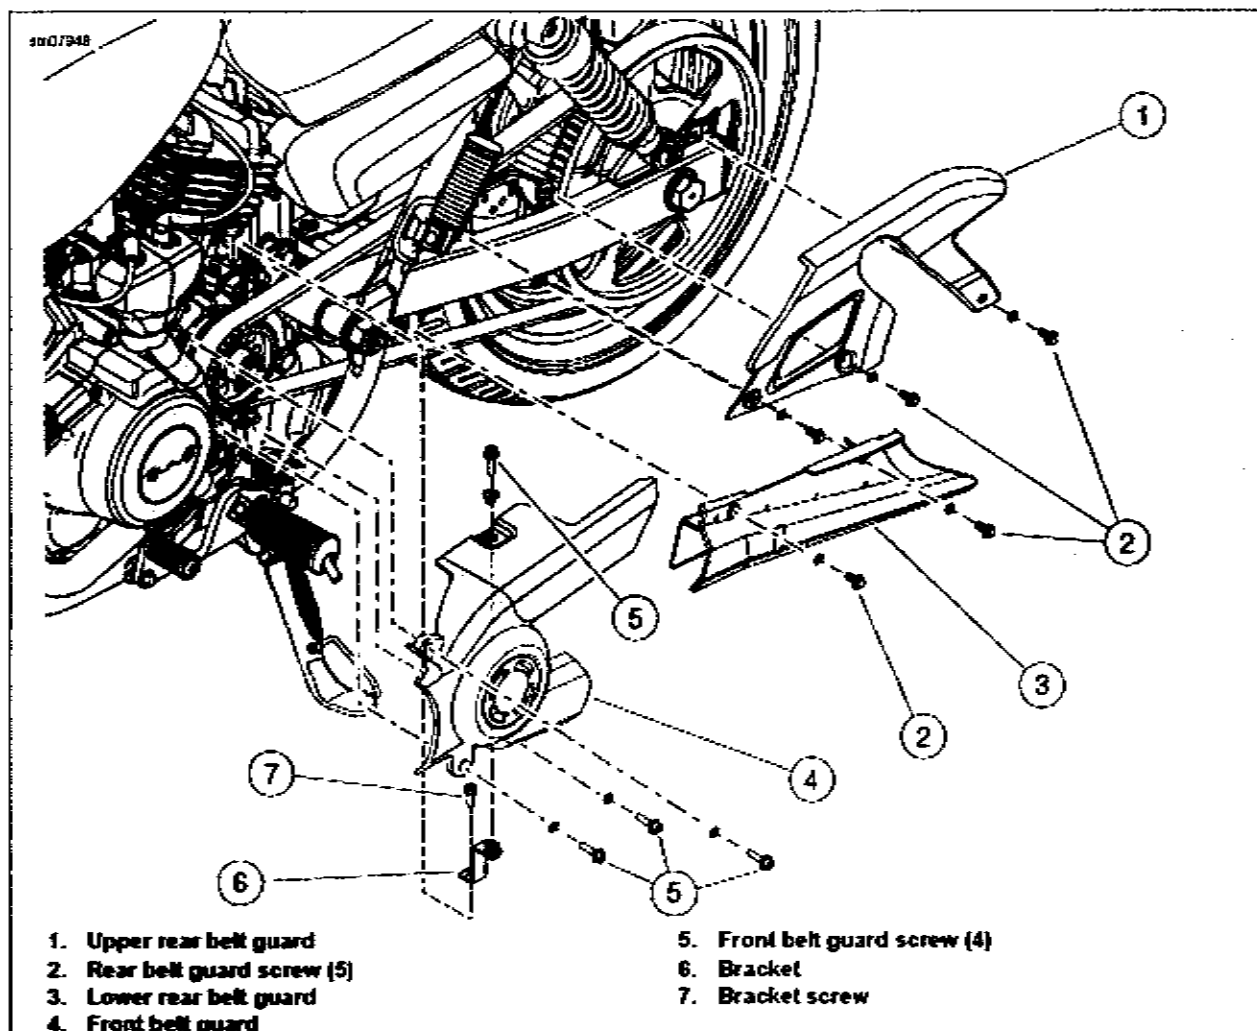

Figure 3-46. Belt Guards
1. See Figure 3-46. Remove front belt guard.
- a. Remove front belt guard screws (5).
- b. Remove front belt guard (4).
2. Remove screw (7) and bracket (6), if necessary.
1. See Figure 3-46. Install bracket, if removed.
- a. Position bracket (6).
- b. Install bracket screw (7). Tighten to                      (                    ).
- a. Position front belt guard (4).
- b. Install screws (5). Tighten to                      (                    ).